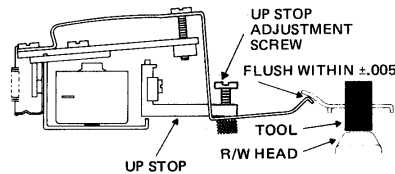

FIGURE 2 HEAD LOAD ACTUATOR UPSTOP ADJUSTMENT
- Adjust up stop on actuator so that bail just touches Head Load Arm or has .005" clearance or lifts Load Arm .005". Reference Figure 2.